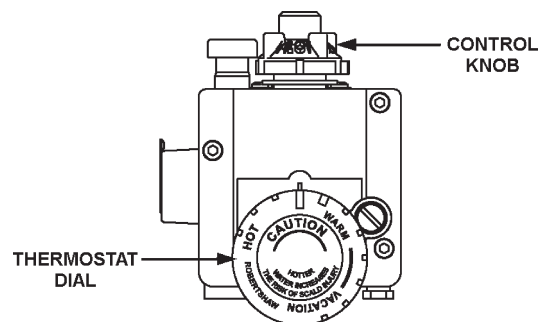

FIGURE 20.
5. Rotate the thermostat dial on the water heater control clockwise (↻) until the main burner ignites and burns off all residual gas in the control and supply lines, see Figure 20.
6. Rotate the thermostat dial counterclockwise (↺) back to the "PILOT LIGHTING" position, see Figure 20.